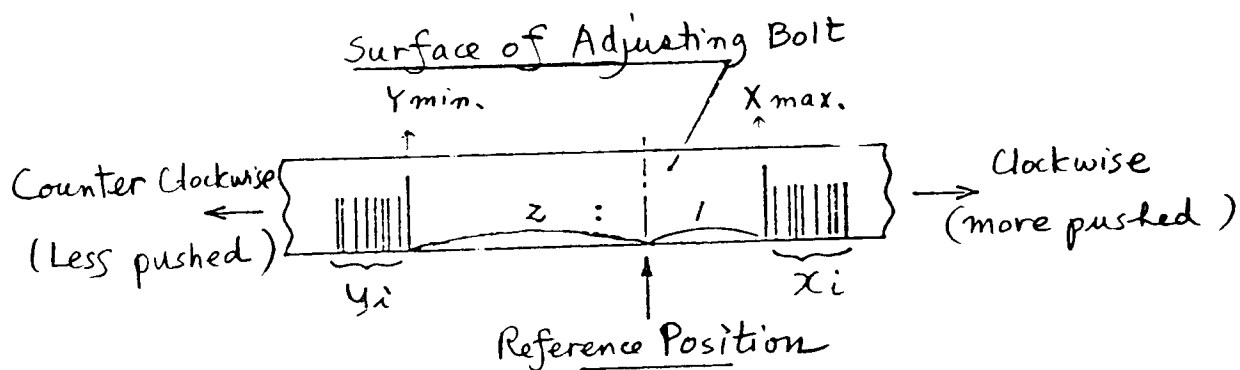

Fig. 8-2 Adjusting Bolt Marking
3. Rotate the transport roller by $\frac{1}{9}$ of full turn (two latches), and mark the adjusting bolt with "x2". Refer to the illustration, Fig. 8-2.
4. Repeat the procedure (3) till the transport roller makes a full turn. (marks x3 - x9)
8. Repeat the procedure (7) till the transport roller makes a full turn. (marks y2 - y9)
9. Measure the distance between the x max. and the y min. be referring to Fig. 8-2, and divide it by 3. Mark the point at $\frac{1}{3}$ from the x max., which is the reference mark to set the adjusting bolt.